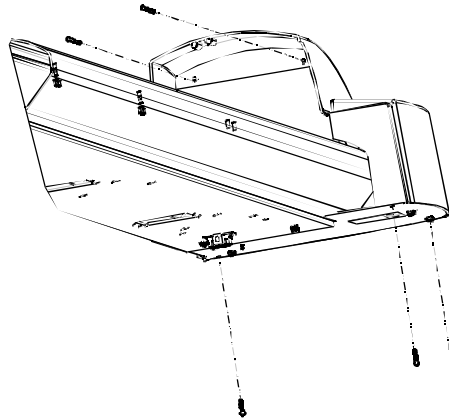

Figure 5-1. Right Cover Assembly Removal/Installation.
4. With a #2 Phillips screwdriver, remove the three screws securing the Right Cover Assembly to the Right Baseplate and the two screws securing it to the Right Sideplate. See Figure 5-1.